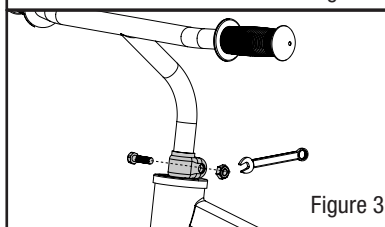

Figure 3
- Verify the fork is flush with the head tube of the frame and tighten the locking ring with an adjustable wrench (see figure 3).